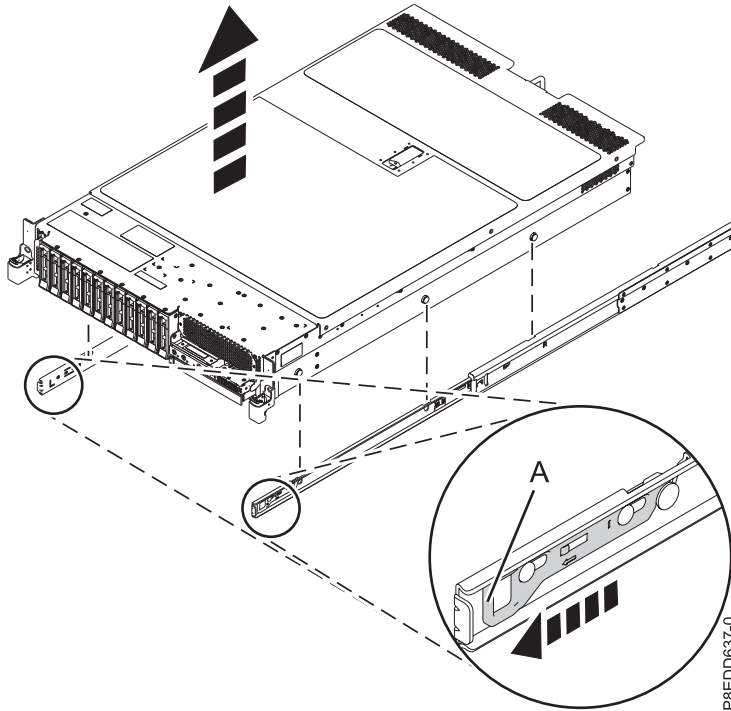

Figure 42. Removing the system from the rack
- a. Pull rail latch (A) toward you, then carefully lift the front of the server until the front nail heads slip out of the front slots on both of the slide rails, as shown in Figure 42.